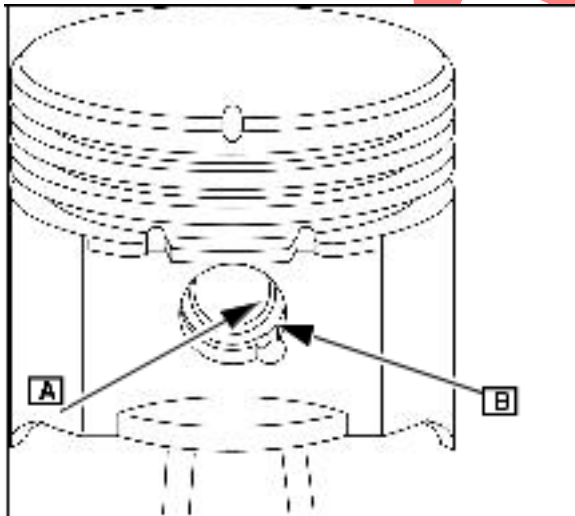

Fig. 5
Rotate piston pin retainer (A) until one end is exposed in notch ([B] Fig. 5) of the piston pin bore.